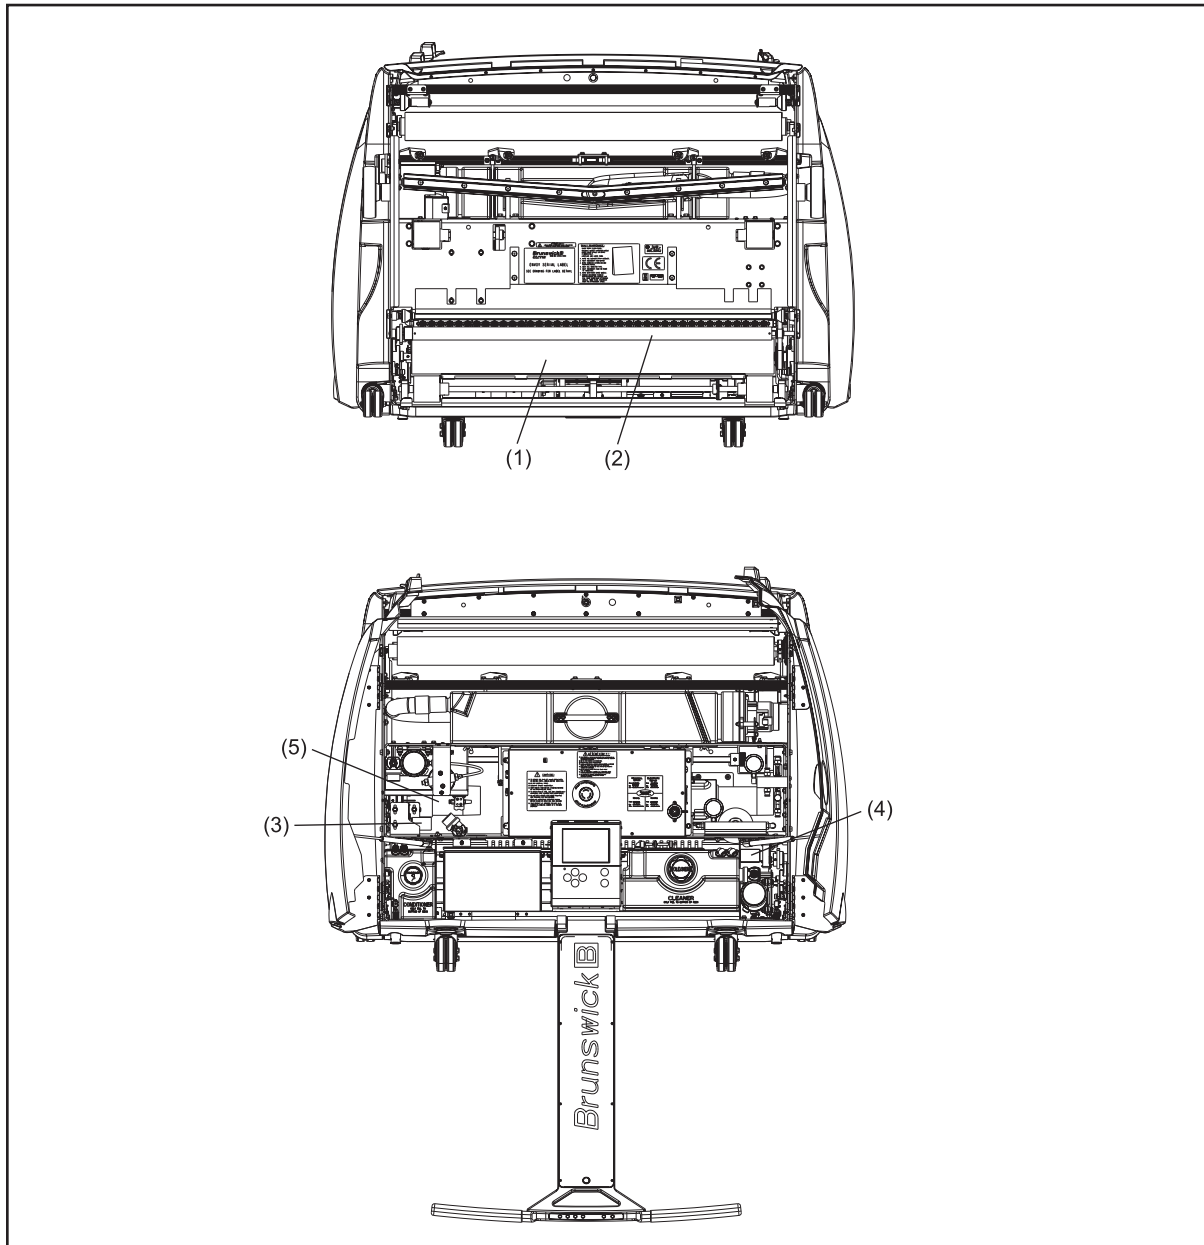

Figure 2-7. Buffing System
1. The buffer lifting motor lowers the buffer brush to the lane surface and the buffer drive motor rotates the buffer brush in the direction of forward machine travel (clockwise, when viewed from the right side of the brush assembly) blending the injected conditioner lengthwise on the surface of the lane. Refer to Figure 2-7.
2. The dispersion roller rotates in the same direction of the buffer brush, contacting only the buffer brush and blending the conditioner amongst the bristles through side-to-side oscillation. Refer to Figure 2-7.